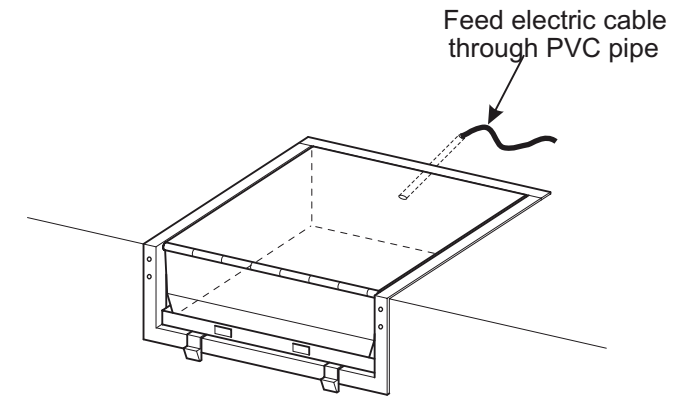

FIGURE 5
- Feed the electrical cable through the PVC pipe cast in the concrete floor, so that the leveller can be tested and operated when its in place. (See Figure 5).